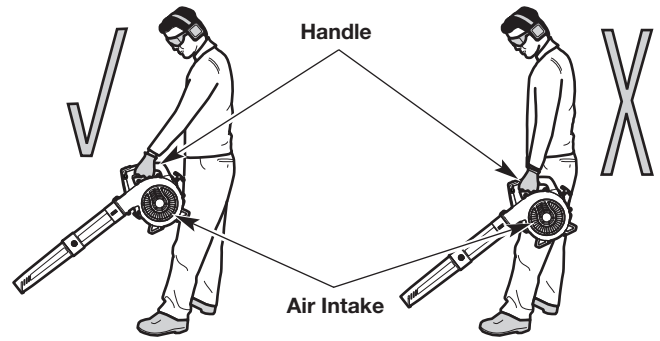

Fig. 9
- Stand in the operating position (Fig. 9). Stand up straight. Do not bend over.
- Hold the unit in front of, and away from, your body (Fig. 9).
WARNING: To prevent serious personal injury or damage to the unit, **DO NOT** hold the unit at your side (Fig. 9). The engine may be extremely hot. **DO NOT** block the air intake.